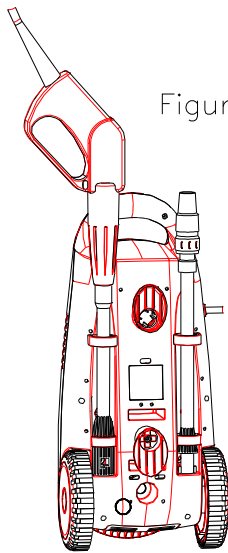

Figure 4
5.3.8 After cleaning, you can take the spray gun apart, and insert the tool storage of the base. See figure 4